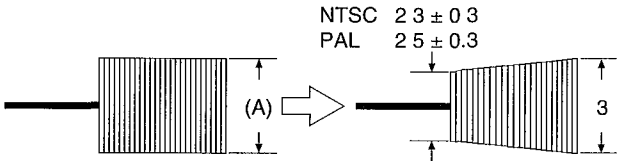
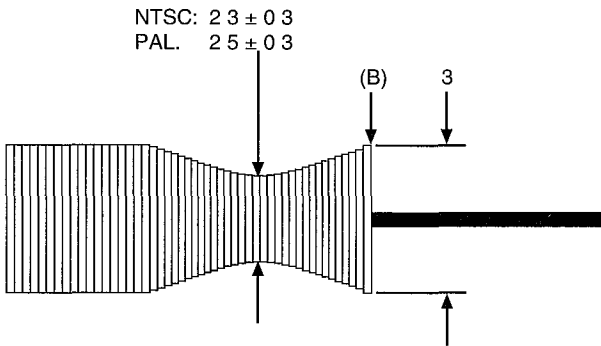

Fig. 3-4
Fig. 3-5
3-3. Supply/Take-up Guide Roller Height Adjustment (Figs. 3-4, 3-5)
<div>Adjustment procedure</div> <div>Caution: Before performing this adjustment, refer to Fig. 6-1 and modify the ATF-R jig.</div> <div>Connect the ATF-R jig before supplying power.</div> <div><div>1) Load the alignment tape which has been completely rewound, and holding down the playback button, supply a DC power source (7.2 V). Set the power switch of the camcorder to OFF at this time.</div><div>2) Connect an oscilloscope to TP3 on the ATF-R jig.</div><div>3) Synchronize the oscilloscope with TP1 (SW25/30) on the ATF-R jig.</div><div>4) Set the osilloscope to (+) slope.</div><div>Supply Guide Roller (Fig. 3-4)</div><div>5) Press SW2 on the ATF-R jig and hold it, then perform the following steps.</div><div>6) Adjust the height of the supply guide roller so the waveform is flat.</div><div>7) Adjust the voltage level control of the oscilloscope so that portion (A) of the waveform is set to 4 graduations.</div><div>8) Set SW1 on the ATF-R jig to ON.</div><div>9) Turn RT1 on the ATF-R jig counterclockwise so the voltage at point (C) on the ATF-R jig is <math>1.8 \pm 0.1V</math>. Then check that point (B) of the waveform is set to 3 graduation.</div><div>10) Adjust the height of the supply guide roller so minimum amplitude of the waveform is set to NTSC:<math>2.3 \pm 0.3</math>/PAL:<math>2.5 \pm 0.3</math> graduations.</div><div>Take-up Guide Roller (Fig. 3-5)</div><div>11) Set the oscilloscope to (-) slope.</div><div>12) Adjust the voltage level control of the oscilloscope so that portion (B) of the waveform is set to 4 graduations.</div><div>13) Turn RT1 on the ATF-R jig counterclockwise so the voltage at point (C) on the ATF-R jig is <math>1.8 \pm 0.1V</math>. Then check that point (B) of the waveform is set to 3 graduation.</div><div>14) Adjust the height of the take-up guide roller so the minimum amplitude of the waveform is set to NTSC:<math>2.5 \pm 0.3</math>/PAL:<math>2.3 \pm 0.3</math> graduations.</div><div>Caution: After adjustment is completed, be sure to reverse the modification to ATF-R jig.</div></div>